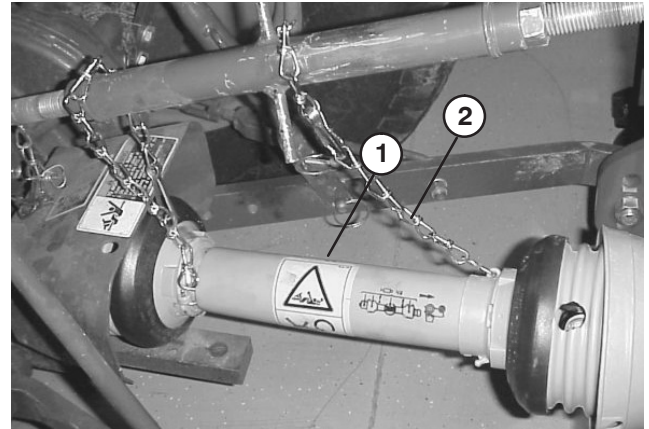

Figure 7
1. Connect PTO shaft to gearbox input shaft (Fig. 7).